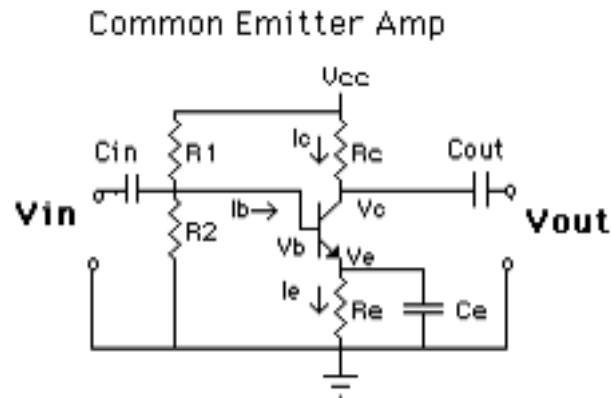

Fig. 1
A general purpose design for the CE amp is given in Fig. 1.
3) We now need to decide what the maximum collect current ( $I_C$ ) we will allow. From the spec sheet 4 mA looks reasonable. Applying Kirchhoff's law to the circuit in Fig. 1 yields the following load line ( $I_C$  vs.  $V_{CE}$ ) equation: